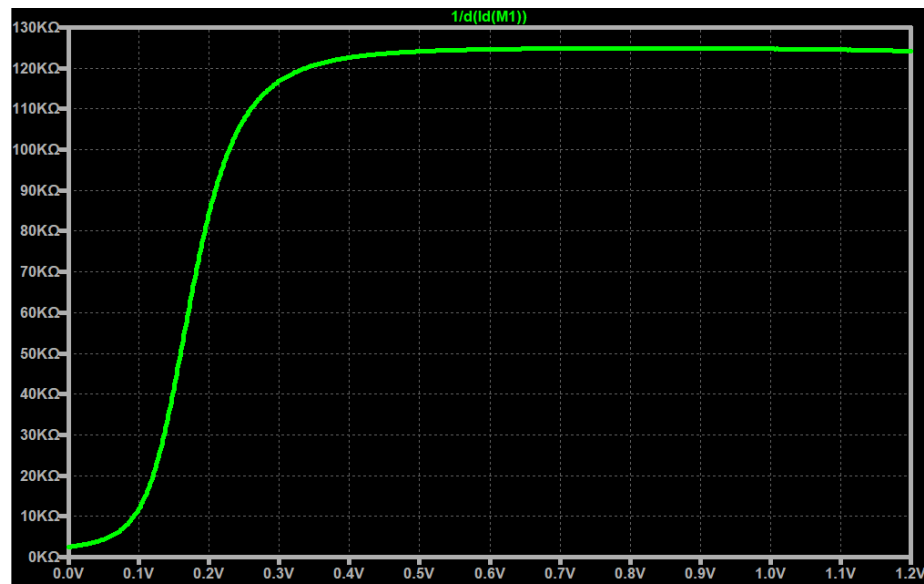

Figure 2.10  $r_o$  vs  $V_{D_S}$
4. Click on Id(M1) in your plotting plane and change it to d(Id(M1)), the d() function computes the derivative of the given plot. If done correctly you should get Figure 2.10.